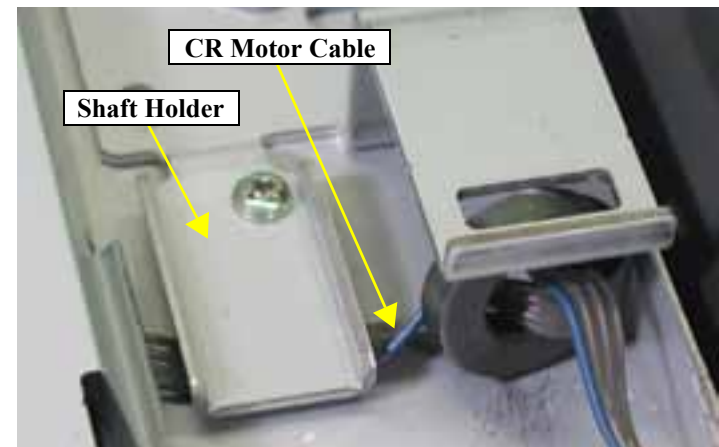

Figure 4-16. Routing CR Motor Cable
- Pass the CR Motor Cable under the Shaft Holder as shown in Figure 4-16.